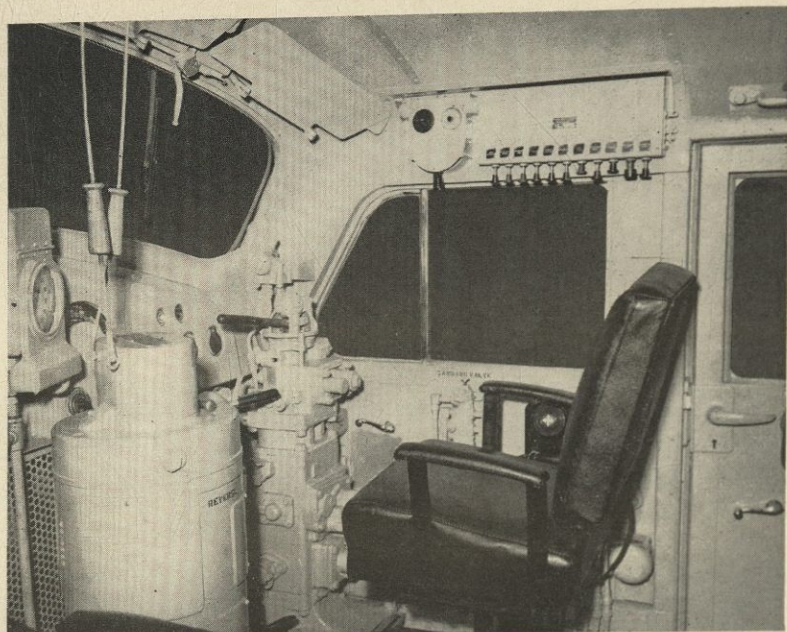
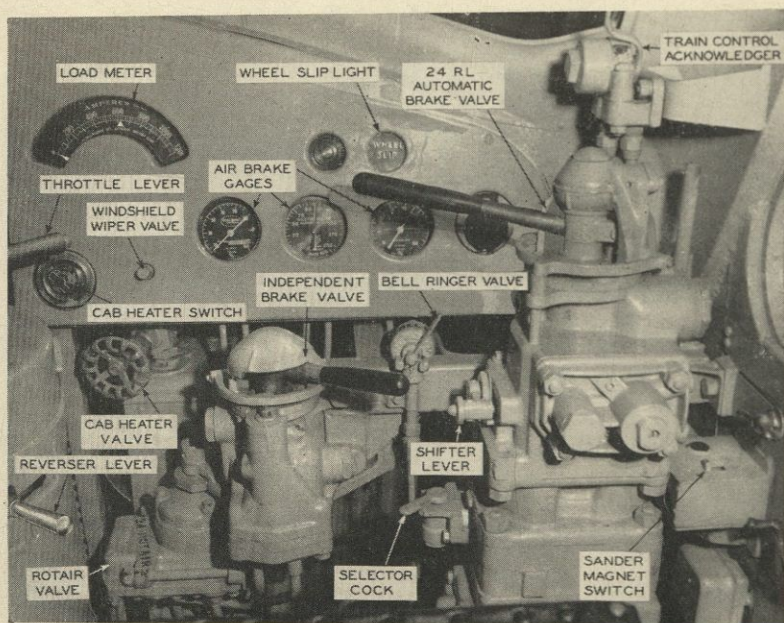
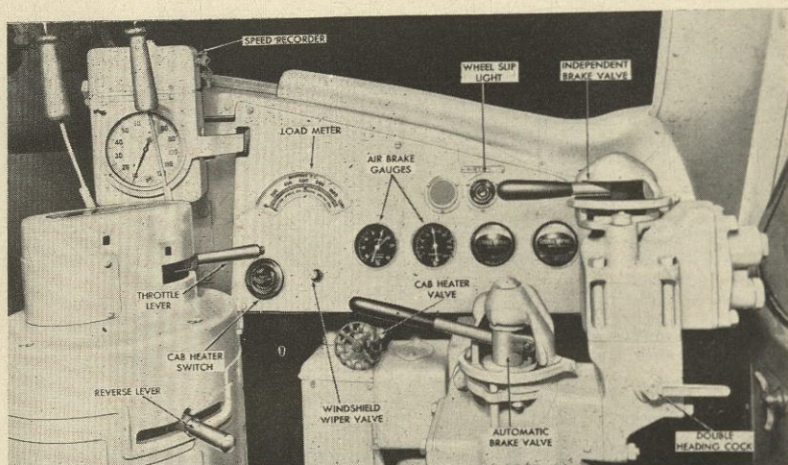

Fig. 1
Fig. 2
Fig. 3
3. Figure 1 is a view of the engineer's side of the cab of an E-7 locomotive. Fig. 2 shows the apparatus as seen from the engineer's seat. This locomotive is equipped with the No. 24 RL Air Brake Equipment. Fig. 3 shows the same locomotive control apparatus, but with No. 8 EL Air Brake Equipment instead of No. 24 RL Equipment.
4. Both Fig. 2 and Fig. 3 show the names of the various control levers, gages, meters, etc. Referring to Fig. 3: The control stand or station at the left of the illustration carries the reverser lever and the throttle lever.
6. Further reference to Fig. 3 will show a small opening or peephole just above the end of the throttle lever slot. Words or numbers appear in this opening that correspond with the position of the throttle lever. When the throttle lever is clear forward, the word OFF appears. When it is moved to the idling position, the word IDLE appears. When it is moved to the first notch, the number 1 appears and so on up to the number 8 for full power. The second peephole above and to the left of this first
8. The light switches and control switches of this locomotive are above the engineer's seat, as shown in Fig. 1. These switches from right to left are named and marked as follows:
12. On most road locomotives there is a pneumatic control switch (P. C. switch) that is connected into the air brake system. This pneumatic control switch is located on the side of the cab to the right of the engineer's seat. It is not visible in Fig. 1. When the P. C. switch is tripped, the reset button is tight against the box. If it is tripped it must be pulled out about $\frac{1}{4}$ inch to reset it. It gives a distinct snap or click as it is reset.
This foot pedal often is called the deadman's pedal. It can be seen in Fig. 1, near the floor, between the control stand and the air brake pedestal.
23. Many railroads issue local instructions which specify maximum permissible load meter readings while a train is operating under various conditions. As a general rule, the pointer of the load meter must not be allowed to remain above the 625 ampere mark after the train is under way. A small, red triangle is located below the dial to indicate this marking (see Fig. 2). It is permissible for the pointer to pass beyond the red triangle for a limited time while starting or pulling a train up a grade. It should be safe to operate with the load meter indicating about 920 to 975 amperes for a distance up to 2 miles. Likewise, it is considered safe to operate for a distance up to 5 miles if the pointer does not exceed about 825 amperes. Operation for a distance up to 20 miles may be safe if the pointer of the indicator is beyond 625 but not beyond 695. If the operating conditions are such that the train cannot be handled beyond the distances specified without the pointer returning to the left of the red triangle, the power must be shut off and time allowed for the traction motors to cool.